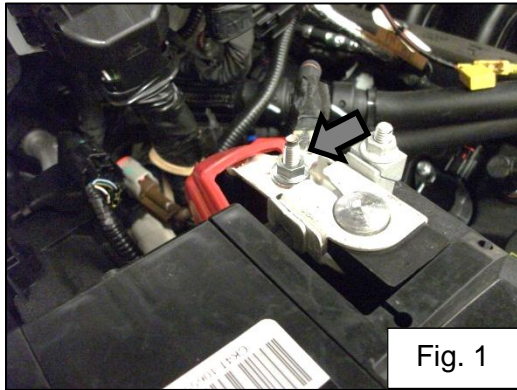

Fig. 1
2. Make sure supplied fuses are not installed in fuse holders and connect the amplifier power wire and subwoofer power wire to the stud pictured in figure 1. Torque to 10Nm